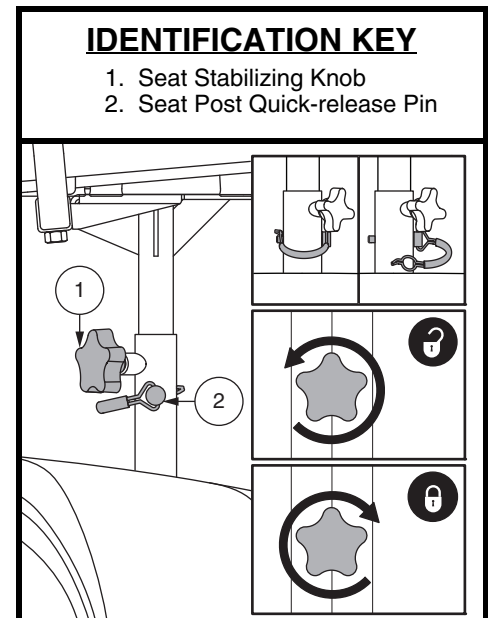

Figure 15. Seat Stabilizing Knob
1. Loosen the Seat Stabilizing Knob. See figure 15.
2. While holding the seat, align the adjustment holes on the seat and lower seat post. See figure 15.
4. Tighten the Seat Stabilizing Knob completely. See figure 15. Ensure the seat is completely secure in place.